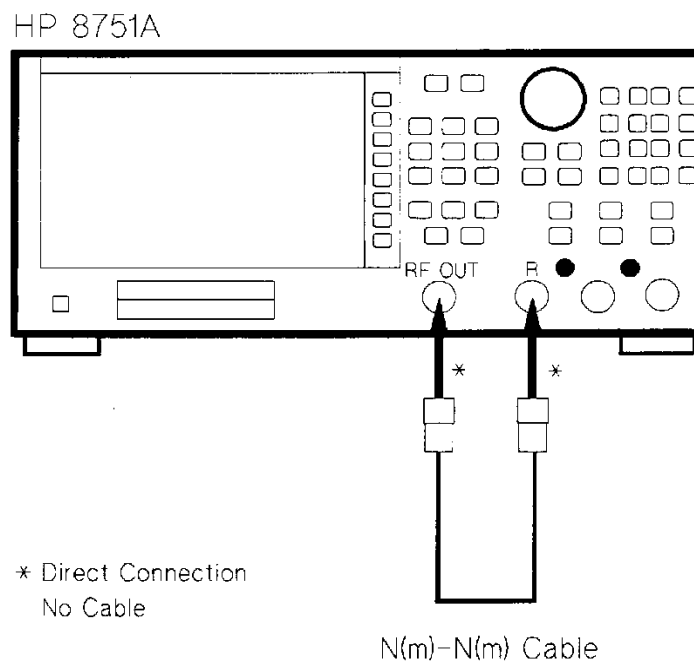

Figure 1-1 Input-R 2nd IF Mixer Tracking Adjustment Setup
2. Connect the N(m)-N(m) Cable as shown in Figure 1-1.